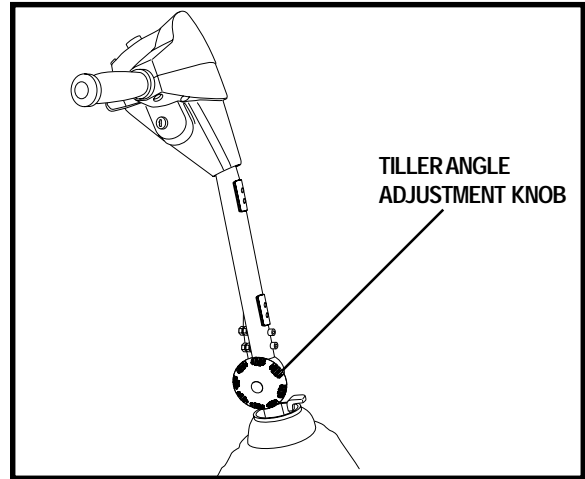

Figure 9. Tiller Angle Adjustment
1. Loosen the tiller adjustment knob. **See figure 9.**